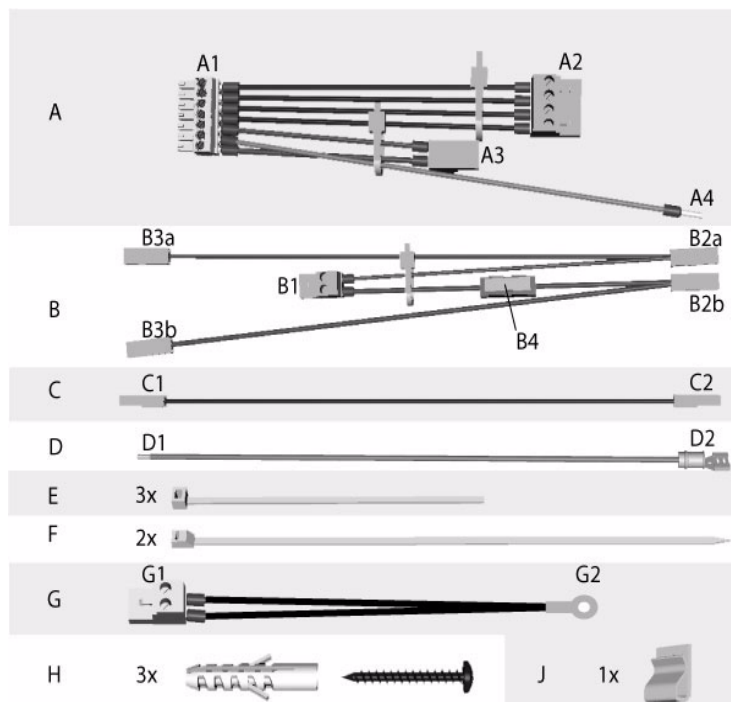

Figure 2 Accessories kit content
2. Put the rechargeable batteries on the bottom of the housing and secure them with the cable ties **F** - (*Figure 2*).
3. Stick the bracket **J** (*Figure 2*) on the back of the housing in such a way that later on not used connectors of the cable **B** can be fixed with it.